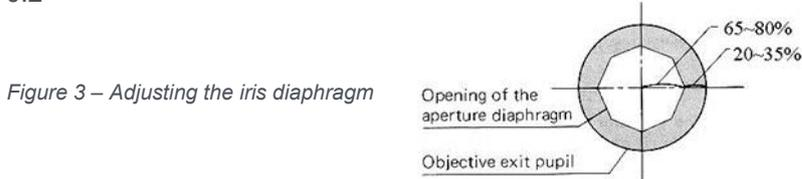

Figure 3 – Adjusting the iris diaphragm
- Adjust iris using knurled ring at base of condenser until the image occupies about 65-80% of the visual field, too much will introduce “flare” (Figure 3).